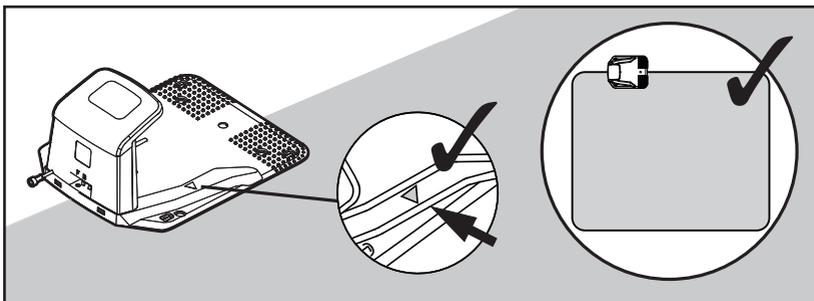

Fig. 15
NOTE: The arrow on the charging station (12) must point towards the mowing area (Fig. 15).